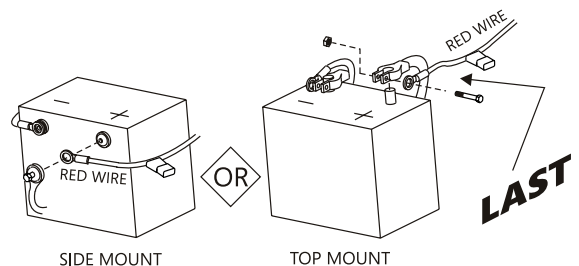

Figure 4-6
- Last, attach red wire to the positive terminal on the battery. *See Figure 4-6.*